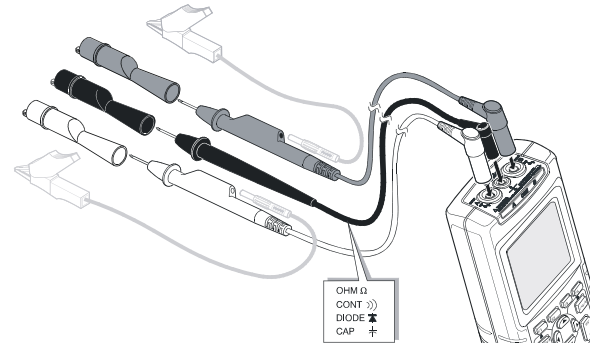

Figure 1-7. Measurement Setup
- First connect the red shielded test lead from input A, and the gray shielded test lead from input B to the signals to be measured. Connect the short ground leads to the same ground potential. (See Figure 1-7.)
For Ohm (Ω), continuity, diode, and capacitance measurements, use the red shielded test lead from input A and the black unshielded ground lead from COM (common). (See Figure 1-7.)